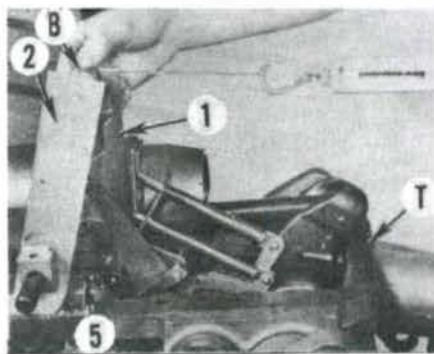

Fig. 225—View showing test using spring scale, MFN 1080-D gage tool (2) and MFN 970 gage block (T). Refer to text.
221. POSITION CONTROL LINKAGE. To adjust position control linkage, first move draft control lever to fully "UP" position on quadrant and place position control lever against transport stop. Position gage tool (MFN 970) with side marked .636 between rockshaft arm and lift cover casting as shown at (T—Fig. 225). Using a spring scale, apply 1.36 Kg (3 pounds) pull to vertical lever (1). The vertical lever should lightly contact bushing (B).